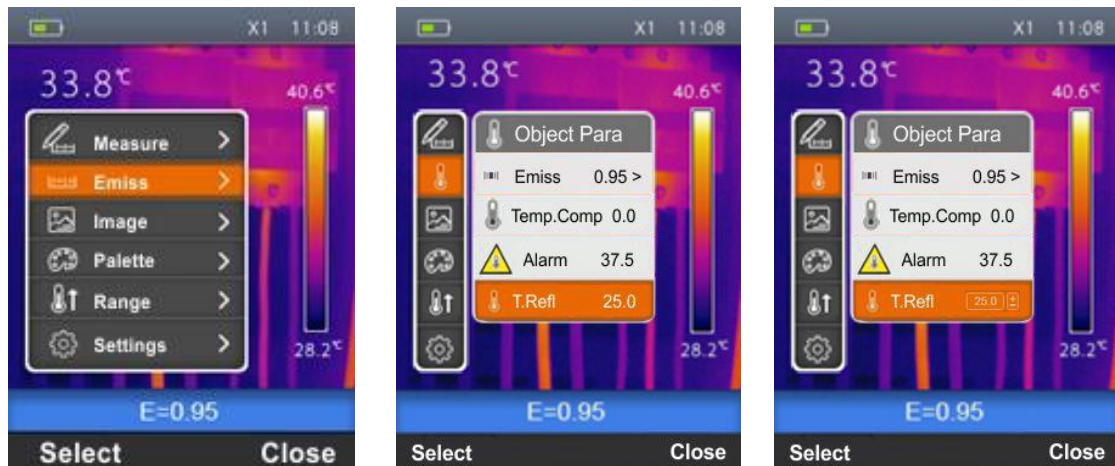

Fig. 21: Setting the Reflected Temperature on the instrument
1. Select the item "T. Refl." using the keys \oplus or \ominus and press the key "Select". The screen Fig. 21 – Central part is shown on the display